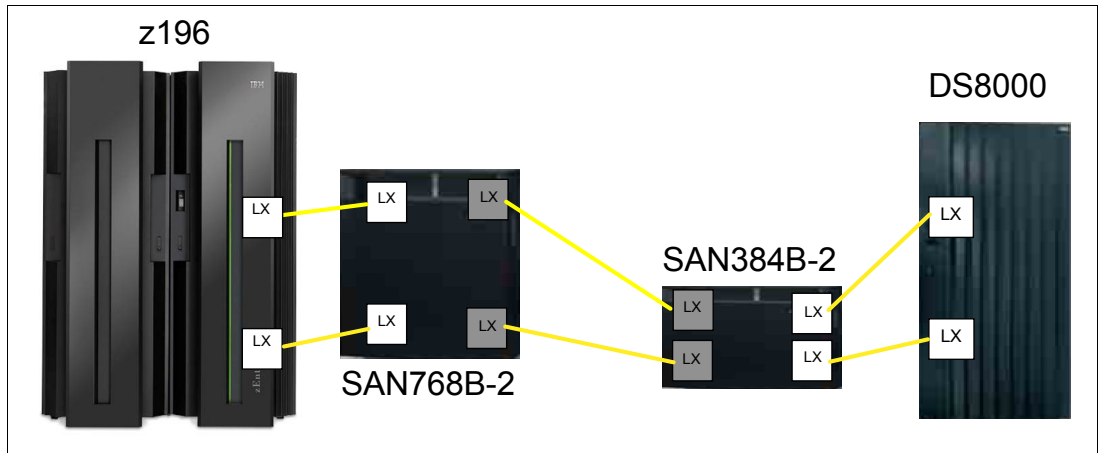

Figure A-3 Our cascaded FICON Director topology
The transceiver type required for the ISLs in a cascaded FICON Director topology is long wavelength (LX). LX transceivers are generally recommended for all connections, which we used for all our ports, as shown in Figure A-3.